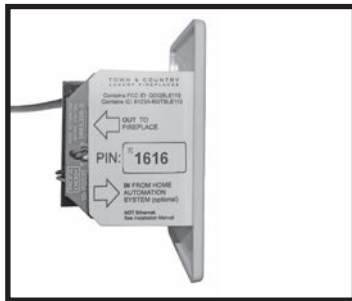
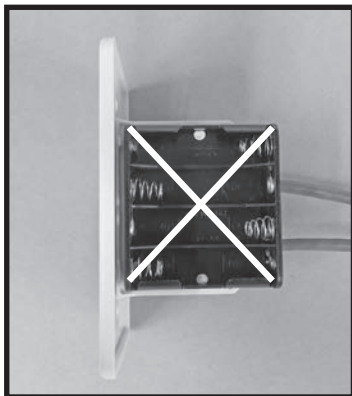

Figure 3: Wall switch - interface side.
Figure 4: Wall switch with no batteries.
3. Wall mounted Remote Control Receiver Figure 3, Figure 4 and Figure 5.
NOTICE: Do not install batteries into the wall switch this unit (Figure 4). Battery holder must remain empty.